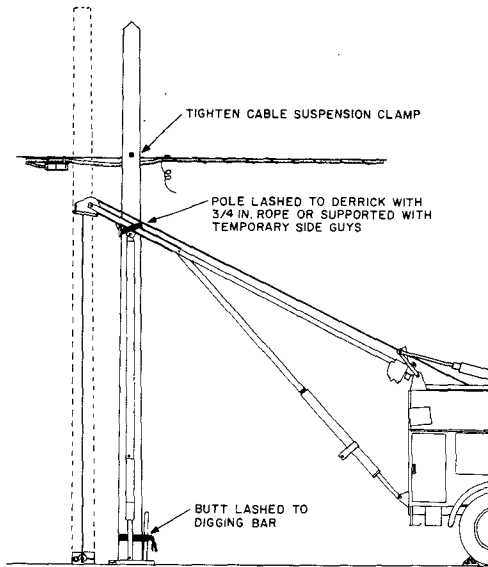

Fig. 3—Pole Lashed To Derrick
- (5) Saw through the pole near the ground line and lift it off the butt.
- (6) Slack off the snub rope and winch line enough to set the pole on the ground.
- (7) Push the top of the pole to a vertical position with pike poles.
- (8) Lash the pole to the main leg of the derrick as shown in Fig. 3 or support it with pike poles or rope side guys.
- (9) Tighten the cable suspension clamp.
- (10) The winch line can now be released to be used to remove the butt and raise the new pole.